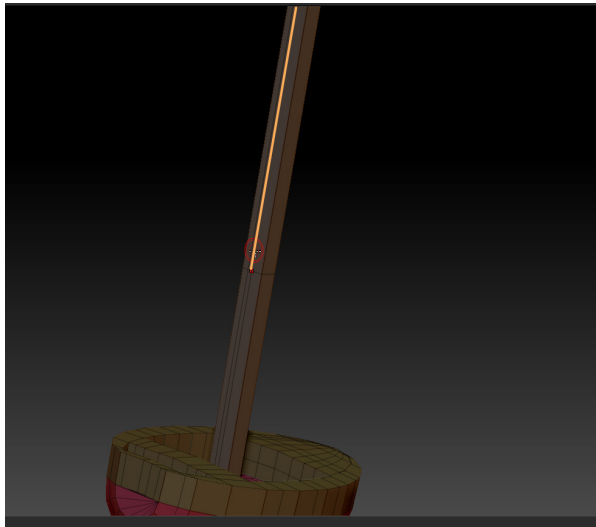
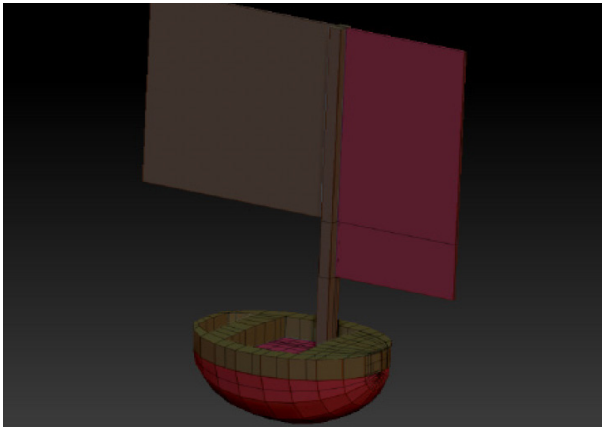

Figure 3-126 Selected polygon
Figure 3-127 Polygons extruded
3. Select the polygon of the *boat*, as shown in Figure 3-126, and extrude. Similarly, extrude the polygon on the opposite side, as shown in Figure 3-127.